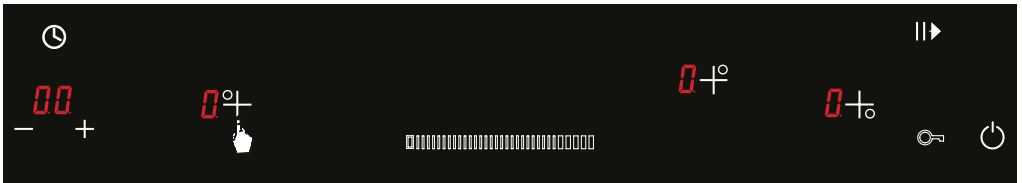

Figure 4
2. Relevant hob is selected by pressing the one of , ,  symbols.  symbol is displayed on all other displays. Selected hob illuminates brighter. Selection setting is 10 seconds. If the temperature level is not set on the relevant hob, selection is cancelled automatically with a 'beep'. (see Fig. 4)